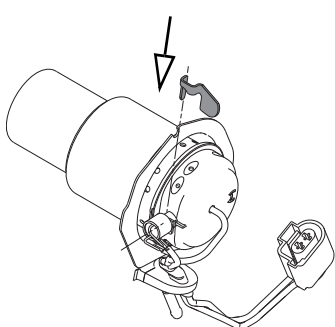
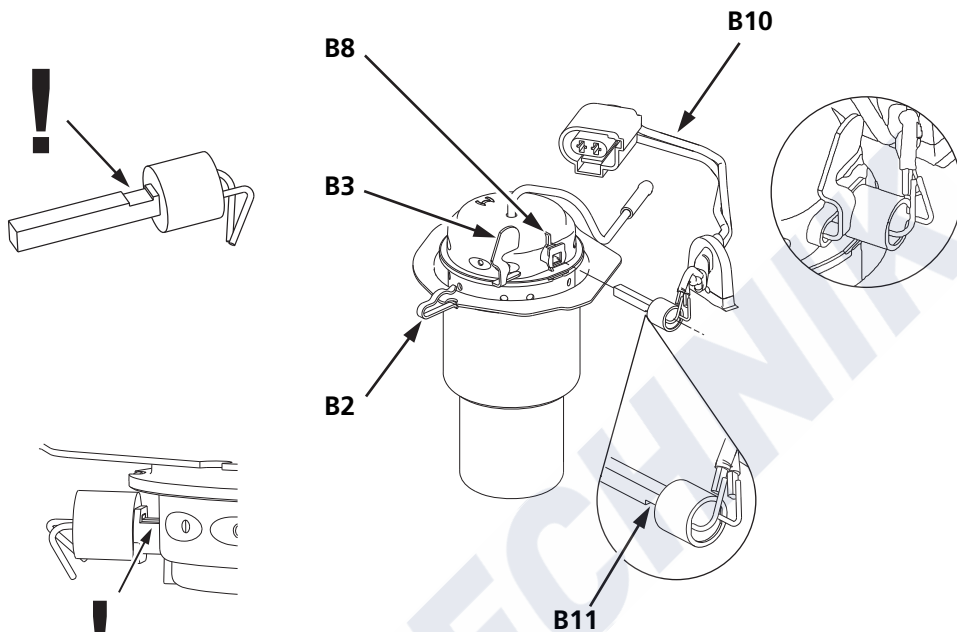

Fig. 911 Installing cooling flag
Fig. 914 Installing glow plug
Install glow plug (B4) with groove (B11, below ceramic) toward combustion pipe (see detail Fig. 914).
3. Hold cooling flag (B3) in groove (B11) with hand on glow plug dome (B8) (see Fig. 911 and Fig. 914).
4. Slide retaining spring of glow plug (B2) over cooling flag (B3) and glow plug dome (B8) (for orientation of retaining spring B2, see Fig. 914).